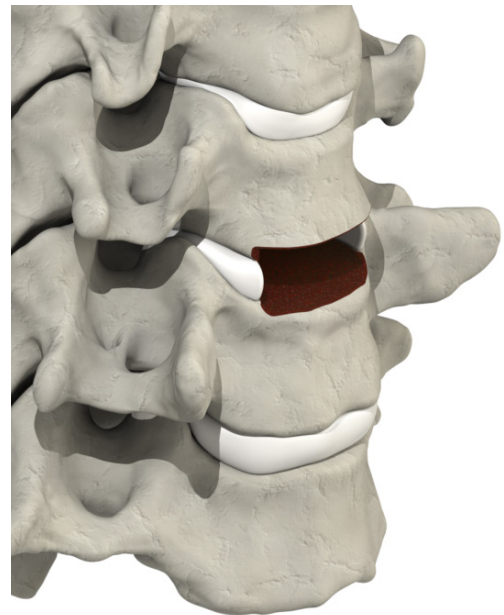

Figure 3
- ▲ Perform an annulotomy and subsequent discectomy between the uncovertebral joints and posterior longitudinal ligament as necessary (Fig.3).